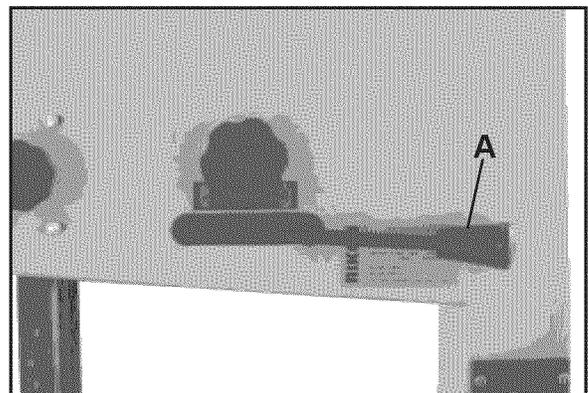
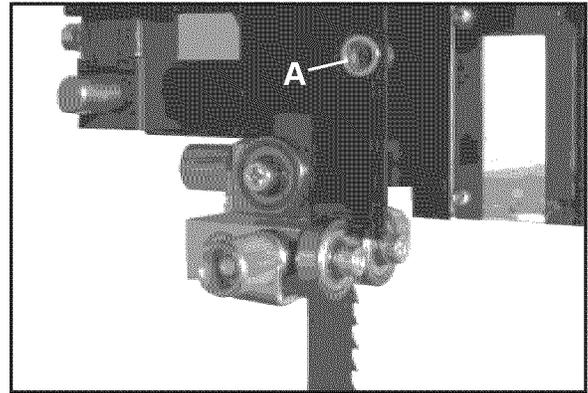

Figure 21
Figure 22
- b) Release the blade tension by moving the quick release lever (A-Fig.21) from right to left. Open the hinged door on the blade guard by loosening the hex screw. (A-Fig. 22 on page 15)
- f) Re-tension the new blade by moving the quick release lever (A-Fig.21 on page 14) right to left and check the blade tracking. The blade should run in the center of the wheel. Refer to “Tracking the Saw Blade” on page 11 for more details.
- i) Close the hinged door on the blade guard and tighten the hex screw. (A-Fig.22)